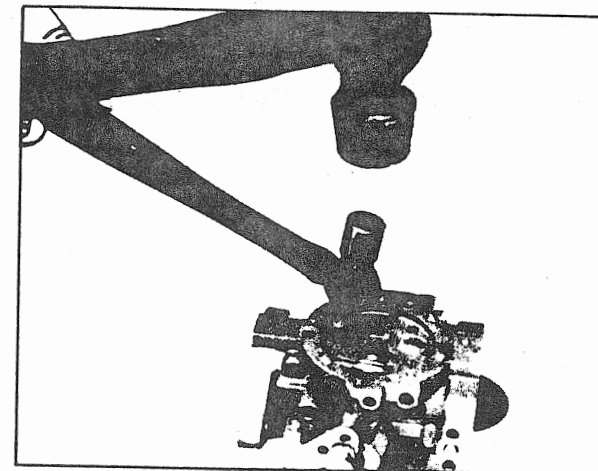

FIGURE 12
- Position the new welch plug with the convex side up then using two (2) ball peen hammers gently tap the plug until the plug becomes concave. The plug must be correctly seated to avoid gasoline leakage. (Fig. 12).